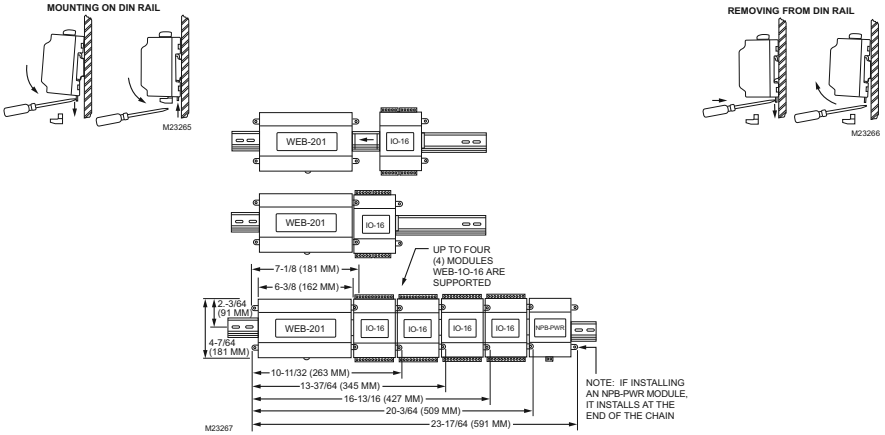

Fig. 2. IO-16-H Module Mounting Details.
- DIN rail, type NS35/7.5 (1.4 in. x 0.3 in [35 mm x 7.5 mm]) recommended for mounting with a controller. The DIN rail should be of sufficient length to accommodate both the controller and all IO-16-H modules and other modules (Refer to Fig. 2).
NOTE: If installing the controller and IO-16-H module at the same time, refer to the controller INSTALLATION INSTRUCTIONS document. A maximum of 4 IO-16-H modules are supported (Refer to Fig. 2).
Step 2	Position the IO-16-H module on the rail, tilting to hook DIN rail tabs over one edge of the DIN rail. (Refer to Figures 2 and 3)
NOTE: To remove IO-16-H module from DIN rail, slide it away from other modules. Insert a screwdriver in the center plastic locking tab and pull downwards, then lift the unit outwards. It may be necessary to remove an I/O connector plug as shown at the top of Fig. 2.